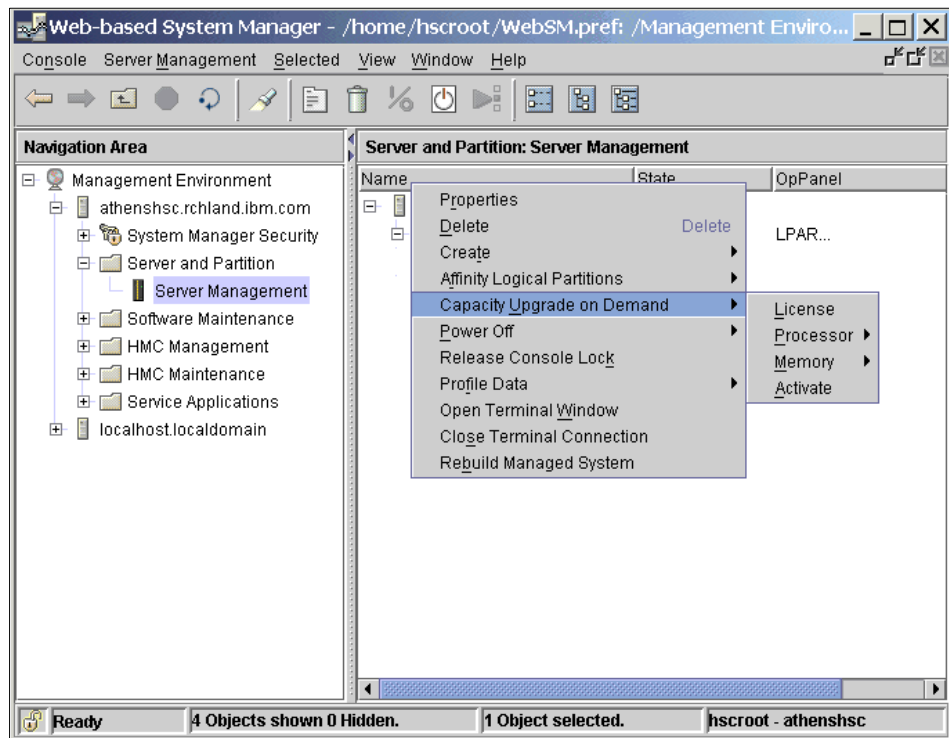

Figure 4-3 CUoD menu on the HMC
- a. When you have a CUoD-managed system, the Capacity Upgrade on Demand menu will appear on the HMC when you right-click the managed system as shown in Figure 4-3.